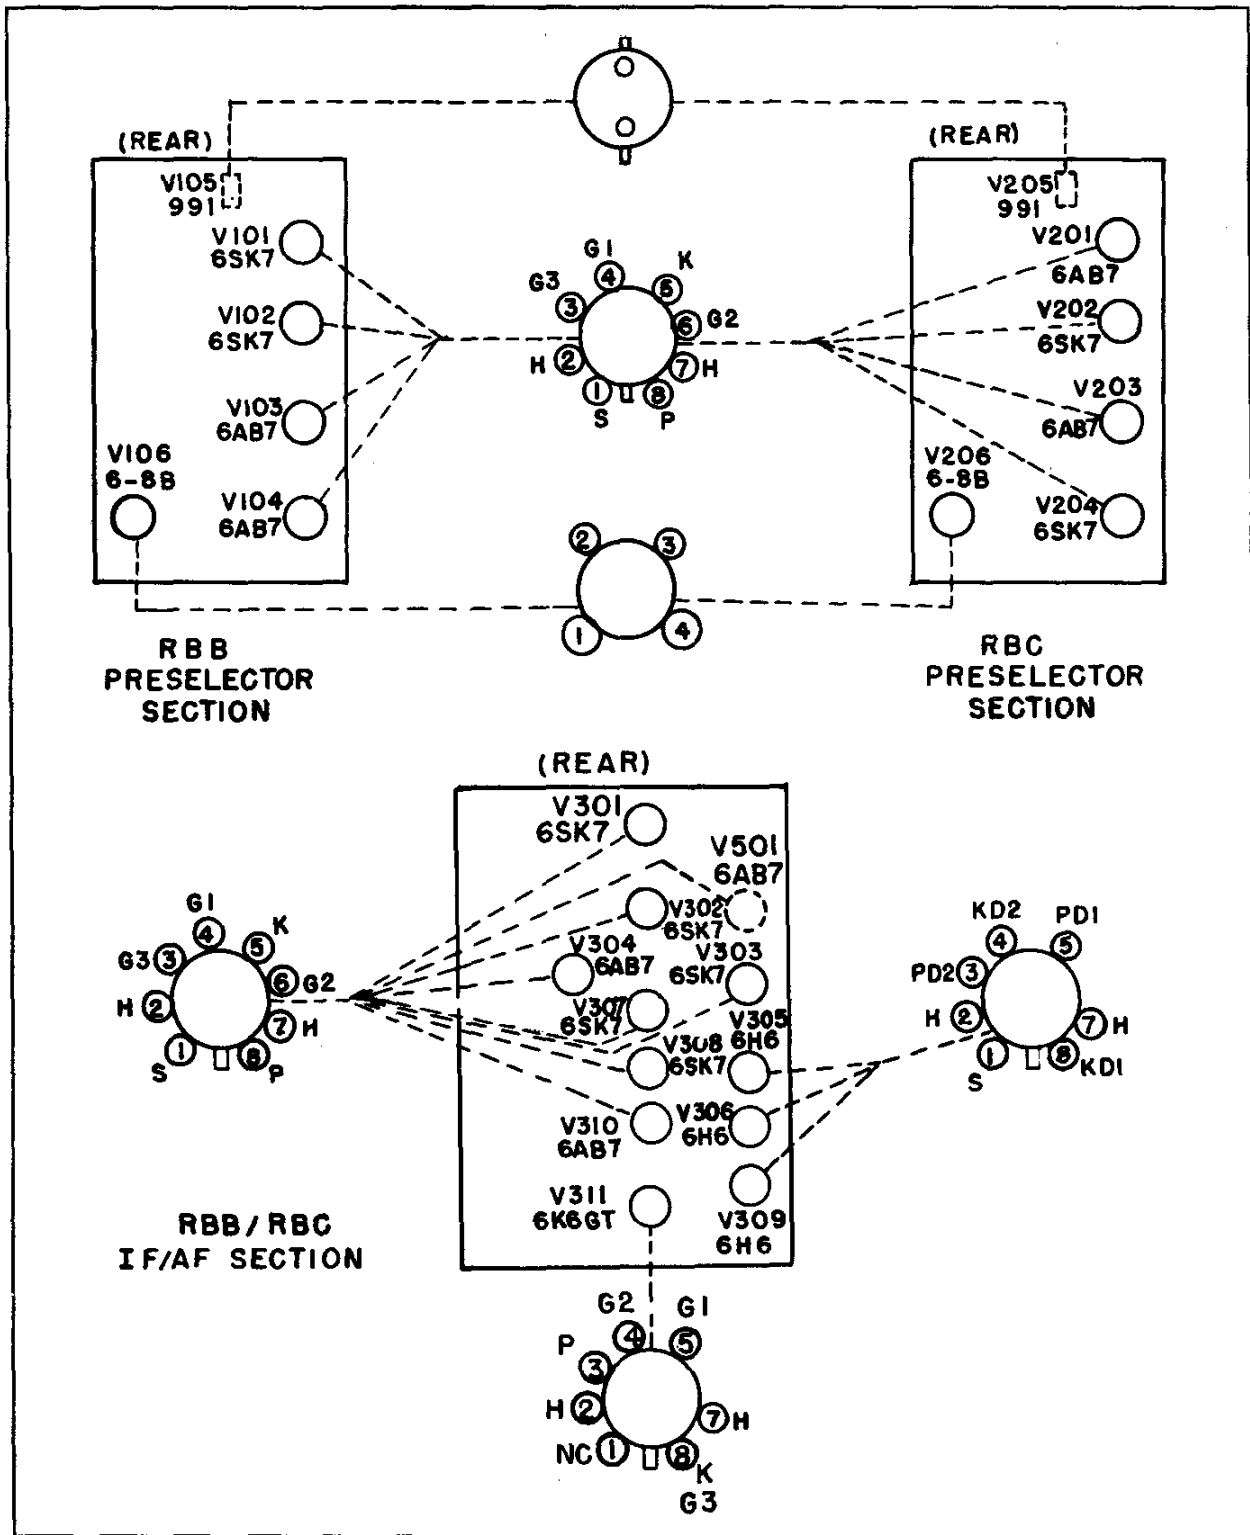

Figure 7-6. RBB/RBC, Tube Socket Layout and Identification
b. RBB/RBC RECEIVER.—Tube layout and identification for the RBB/RBC units are indicated on Figure 7-6.